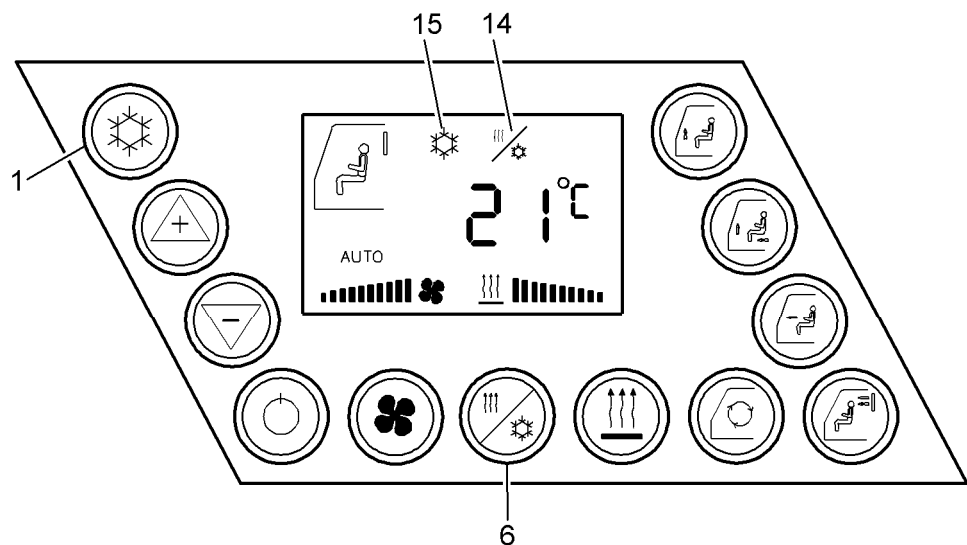

Fig. 3-50 Air conditioning
- ▶ If the machine is used for a longer period of time without using the air conditioner, operate the compressor every 2 weeks by pressing the REHEAT button **6** (siehe Fig. 3-50) .